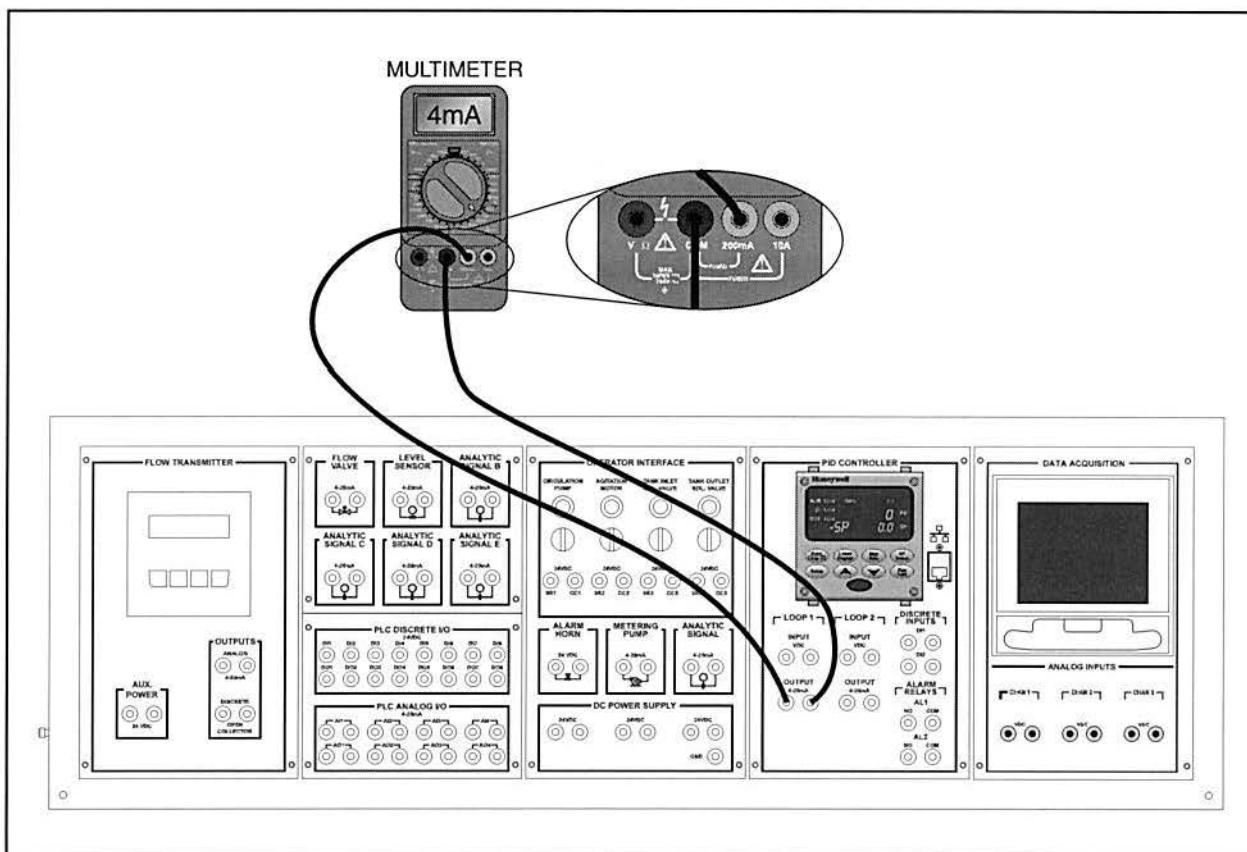

Figure 48. Digital Meter Connected to Measure Output of Controller
- 2. Locate a digital multimeter and connected it to measure the output of the controller, similar to figure 48.